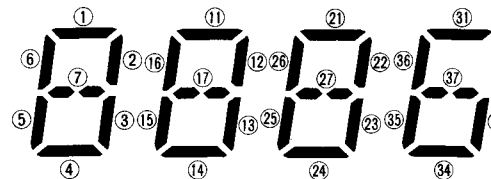

Fig. 3
3. When the tact switches except POWER switch are pressed in sequence, the corresponding indicators will appear on the LCD as shown in Table 1 and Fig. 3.